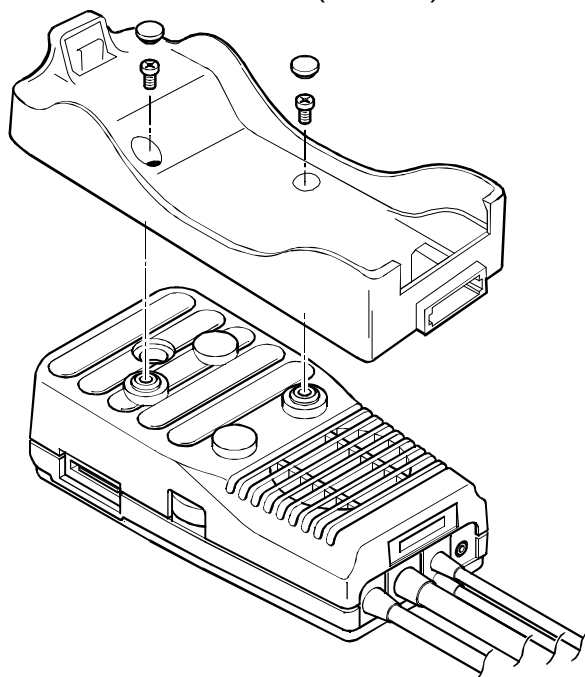

Figure 16: Holder removal
1. (Figure 16) Remove the holder from the handsfree unit (2 screws).